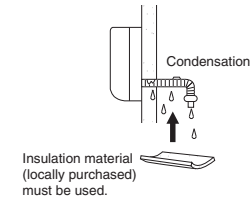

Fig. 3-70
- (c) If the drain hose will run in the room, insulate the hose with insulation* so that chilled condensation will not damage furniture or floors. (Fig. 3-70)